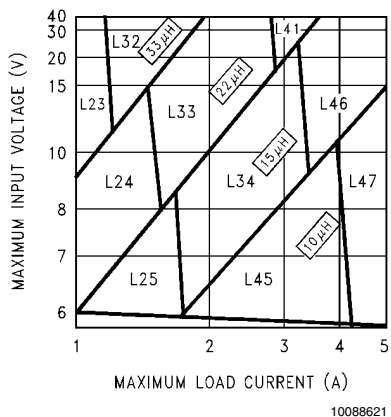
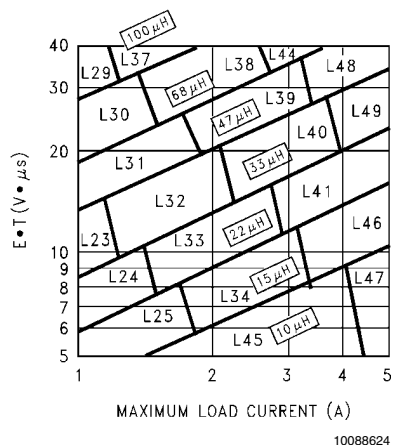

FIGURE 3. LM2678-3.3
FIGURE 6. LM2678-ADJ
Step 3: Determine the inductor required by using one of the four nomographs, *Figure 3* through *Figure 6*. Table 1 provides a specific manufacturer and part number for the inductor.
Step 5: Determine an input capacitor from Table 4 for fixed output voltage applications. Use Table 2 to find the specific capacitor type. For adjustable output circuits select a capacitor from Table 2 with a sufficient working voltage (WV) rating greater than $V_{in\ max}$, and an rms current rating greater than one-half the maximum load current (2 or more capacitors in parallel may be required).
Step 3: Use the nomograph for the 3.3V device, *Figure 3*. The intersection of the 16V horizontal line ($V_{in\ max}$) and the 4A vertical line ($I_{load\ max}$) indicates that L46, a 15µH inductor, is required.
Step 3: To use the nomograph for the adjustable device, *Figure 6*, requires a calculation of the inductor Volt•microsecond constant ($E \cdot T$ expressed in V•µs) from the following formula:
Using *Figure 6*, the intersection of $27V \cdot \mu s$ horizontally and the 3.5A vertical line ($I_{load} \max$) indicates that L48, a 47 μH inductor, or L49, a 33 μH inductor could be used. Either inductor will be suitable, but for this example selecting the larger inductance will result in lower ripple current.
Figure 6, selects an inductance of 22 μH or less, Table 6 does not provide an output capacitor solution. With these conditions the number of output capacitors required for stable operation becomes impractical. It is recommended to use either a 33 μH or 47 μH inductor and the output capacitors from Table 6.